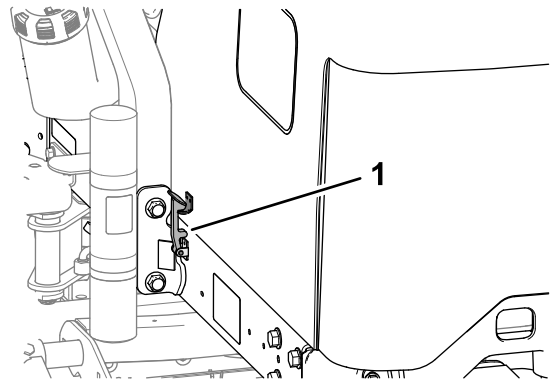

Figure 52
2. Rotate the hood up and back (Figure 52).